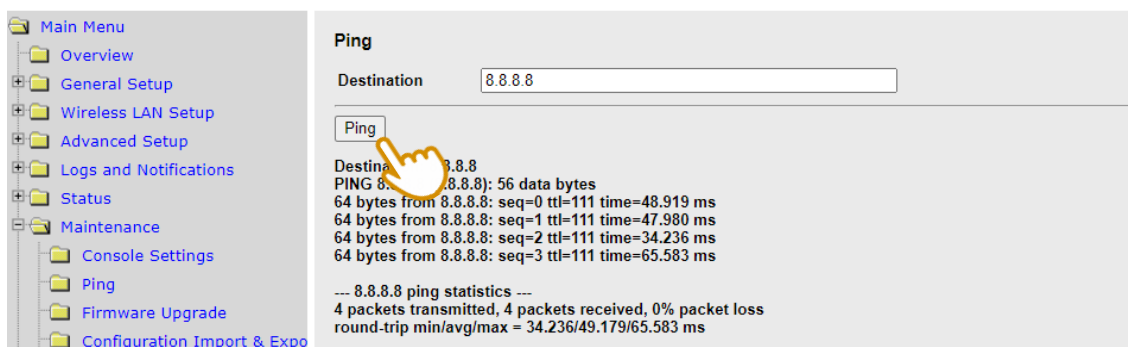

**Figure 17: Overview of the completed AP configuration**
- 11.) For further information. Click on the IP address of the discovered “IE-WL-BL-AP-CL-EU” to open the configuration overview as shown in Figure 17.